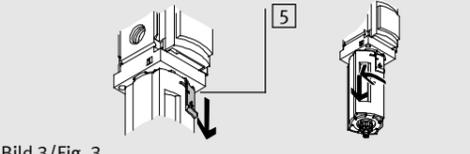

Bild 3/Fig. 3
4. Pull the filter bowl away from the unit (→ Fig. 3).